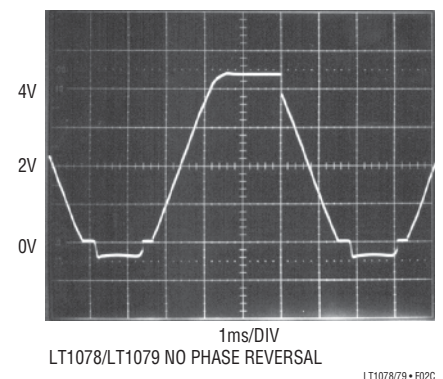

Figure 2. Voltage Follower with Input Exceeding the Negative Common Mode Range ( $V_S = 5V, 0V$ )
2. When the input is more than 400mV below ground (at 25°C), the input stage saturates and phase reversal occurs at the output. This can cause lockup in servo systems. Due to a unique phase reversal protection circuitry, the LT1078/LT1079 output does not reverse, as illustrated in Figure 2, even when the inputs are at  $-1V$ .